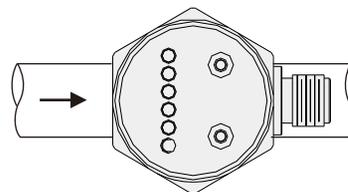

Fig. 4
- (4). SPS must be screwed tightly at installation to avoid liquid leakage from the pipe and cause danger. SPS can be installed at any angle. For best sensitivity and response speed, please refer to the installation in Fig. 4.
- (5). For liquid that contains impurities or particle, please install a filter upstream to protect SPS from being crashed by impurities.